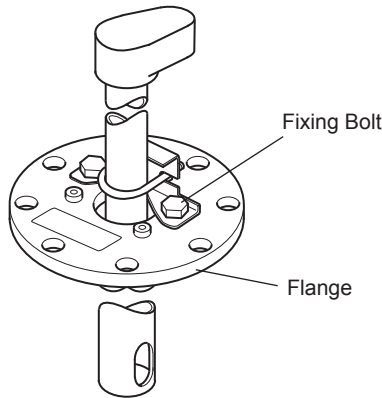

Figure 2.5 Removal of Sensor Holder (for Flange Mounting Sensor without Cleaners)
- For a flange mounting submersion holder without a cleaner, remove the sensor holder by loosening the two bolts securing the sensor holder to the flange (see Figure 2.5).